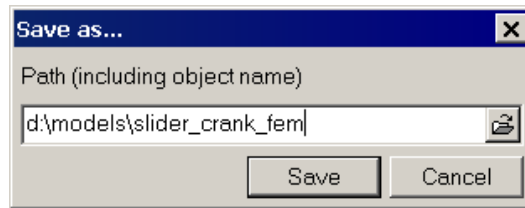

Figure 1.22.
1. Save the model as **Slider\_crank\_fem** (**File | Save as...** menu command), see Figure 1.22.